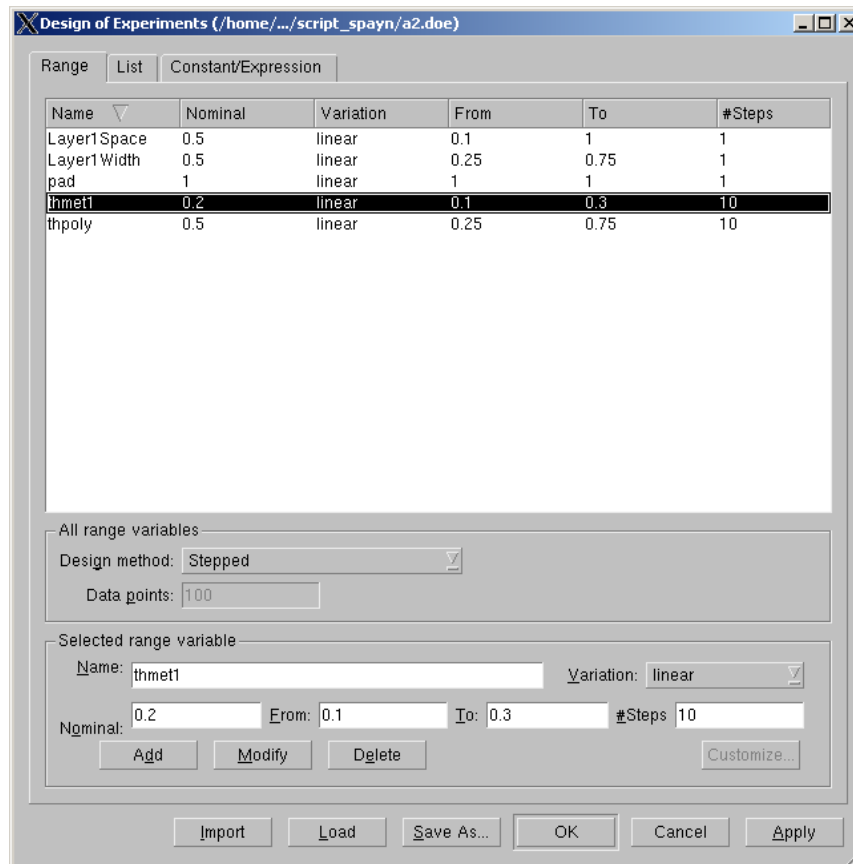

Figure 14.
- The design of experiments stage is entered by clicking on the DOE button, Figure 14